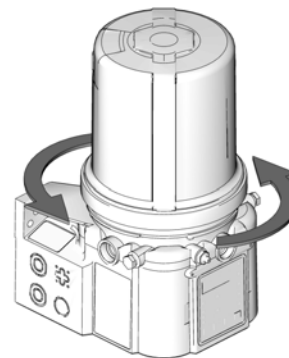

FIG. 2
5. Install a strap wrench around reservoir. Turn reservoir 2 turns counter-clockwise (FIG. 2). Do not rotate the adapter ring.